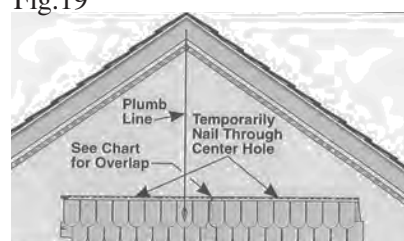

Fig.20
a. For symmetrical appearance at peak, position and lock full panel in the first course with Round Cuts at center of the gable (see Figure 20).
d. Use template and cut at mark. If needed for secure installation, move the mark an equal distance (X on Figure 20) from any Alignment Line.